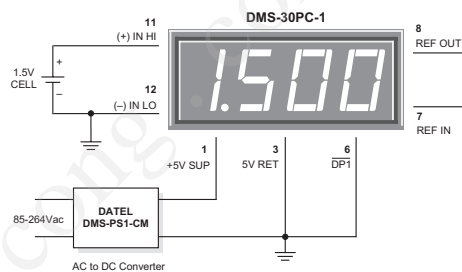

Figure 5. Floating Input Measurements
4. Floating Signal Source Measurements: Floating signals can be measured using the circuits shown in Figures 5 and 6.